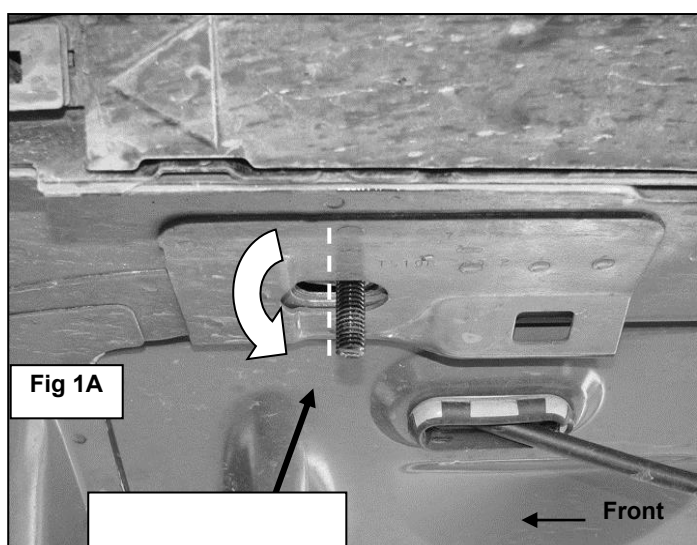
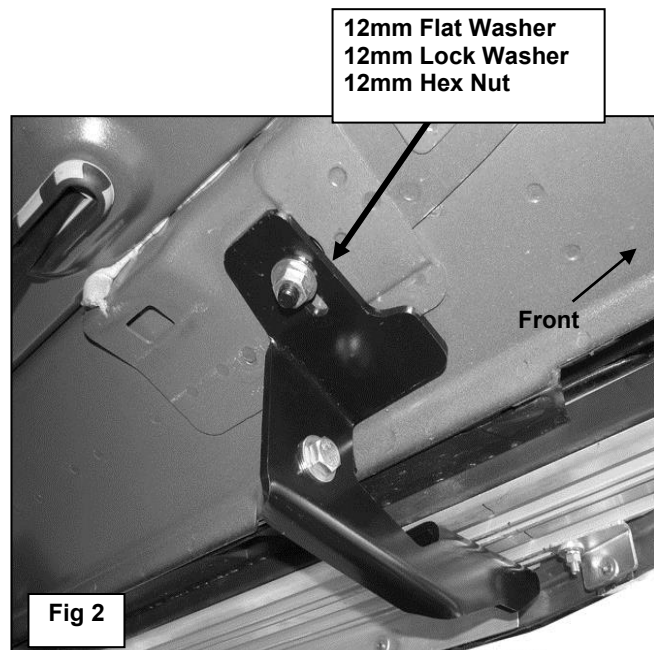

Fig 1A
Fig 2
1. Start installation under the driver side of the vehicle. Select (1) 12mm x 35mm Small T-Bolt Plate and insert it into the factory oval hole in the floor panel, (**Figures 1A & 1B**). Rotate the Bolt Plate 90-degrees so that the plate is across the oval hole. Select the driver side front Mounting Bracket. Hang the Bracket from the Bolt Plate with (1) 12mm Flat Washer, (1) 12mm Lock Washer and (1) 12mm Hex Nut, (**Figure 2**). **NOTE:** Make sure that the mounting flange on the front Bracket is lined up properly with the indent in the floor panel. The front Mounting Bracket must sit flat against the floor panel. Do not tighten hardware at this time.